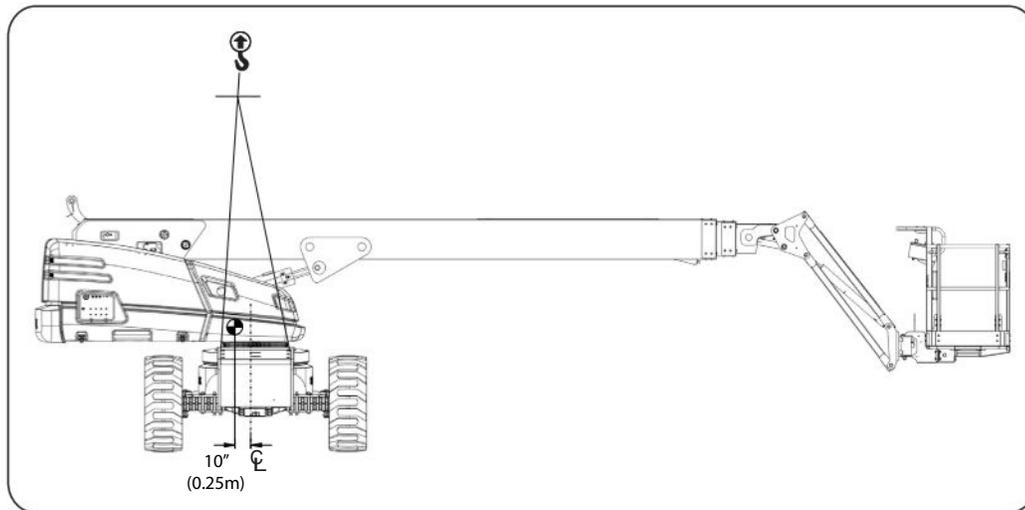
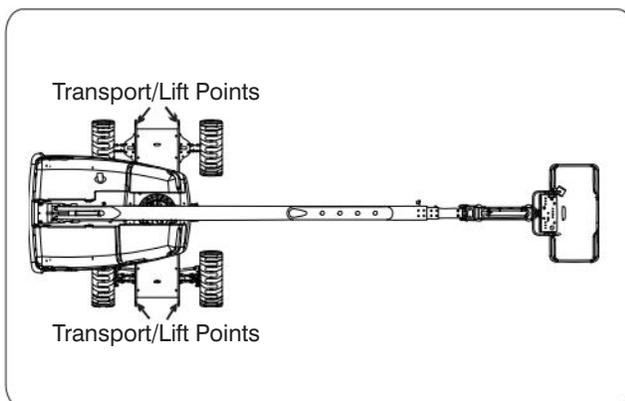
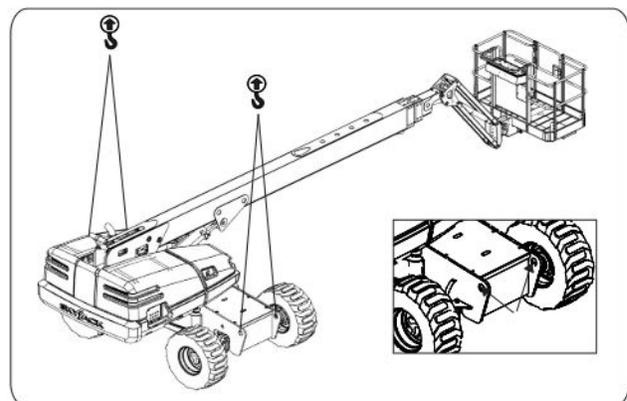

Figure 3-9. 66T Center of Gravity
Figure 3-10. 66T Overhead View Lifting Points
Figure 3-11. 66T Lifting Points
1. Rotate the boom and position the MEWP as shown in Figure 3-9 and Figure 3-10.
4. Properly adjust rigging to ensure MEWP remains level during lifting. See Center of gravity location (Figure 3-9).
When lifting the MEWP, lifting devices must be attached to designated lift points only (refer to Figure 3-10 and Figure 3-11).